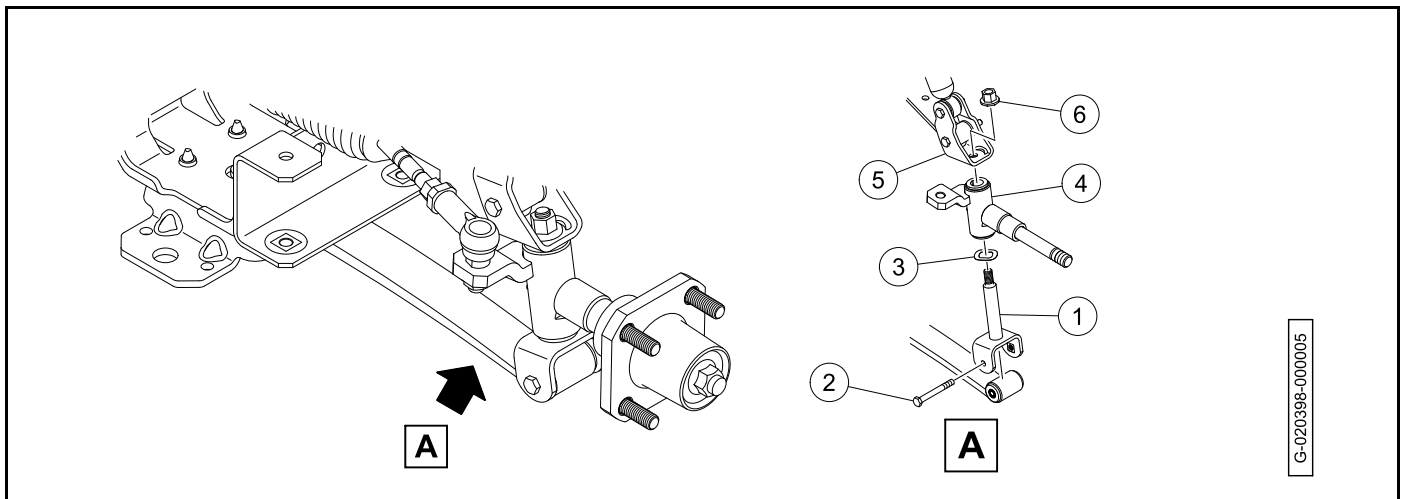

Figure 7-18
2. Install the kingpin (1) over the leaf spring eyes (**Figure 7-18**).